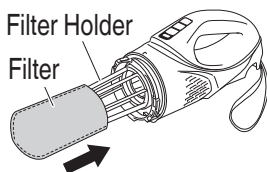

Fig. 8
- (4) Install the filter (**Fig. 8**)